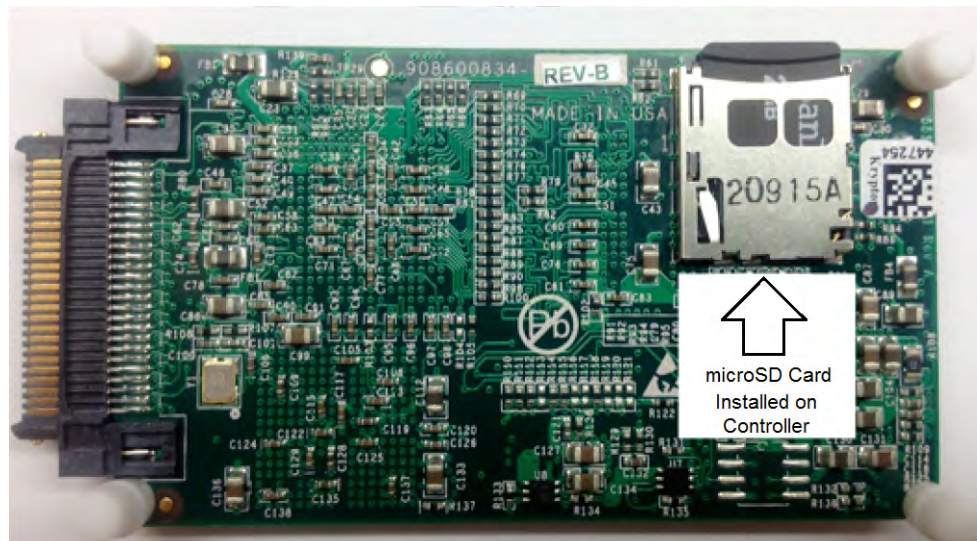
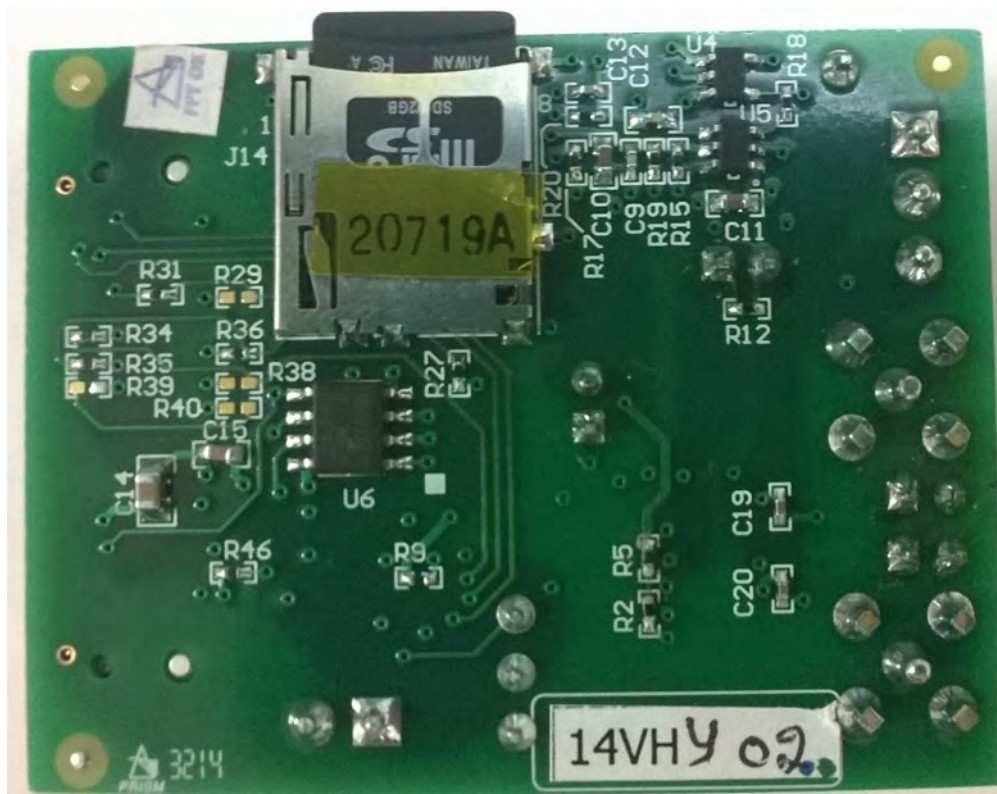

Figure 3. Bottom View of Simple Capture Card with microSD Memory Card Installed
Figure 4. Bottom View of ADS7044EVM Board with microSD Memory Card Installed
As mentioned in the previous section, the ADS7044EVM-PDK includes two microSD memory cards. One is installed on the microSD socket (P6) at the back of the Simple Capture Card as shown in Figure 3. The second microSD memory card is installed on the microSD socket (J2) at the back of the ADS7044EVM as shown in Figure 4.
- Step 2. Verify the microSD card is installed on the back of the Simple Capture Card, as shown in Figure 3.
- Step 3. Verify the microSD card is installed on the back of the EVM board, as shown in Figure 4.